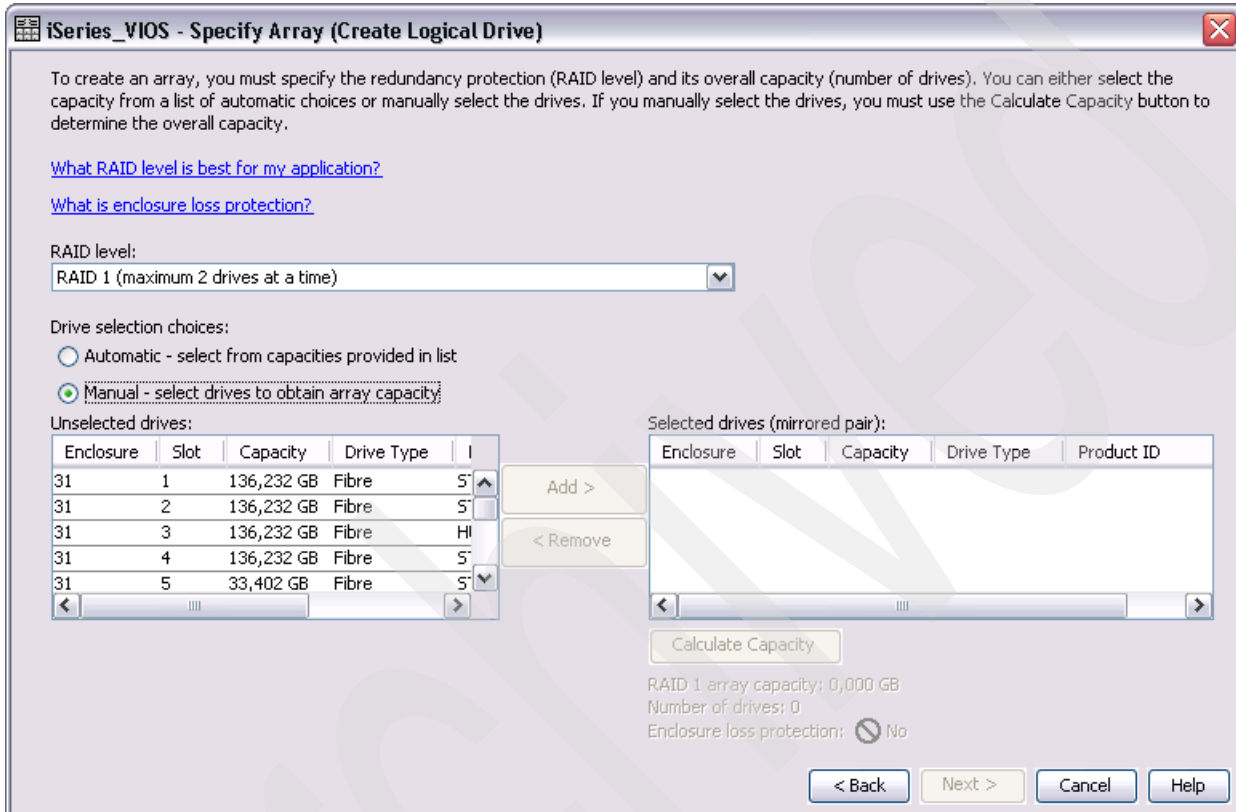

Figure 7-51 DS Storage Manager Specify Array dialog
- For the RAID level we select **RAID 1** from the drop-down list box and for Drive selection choices we choose **Manual - select drives to obtain array capacity**, as shown in Figure 7-51.